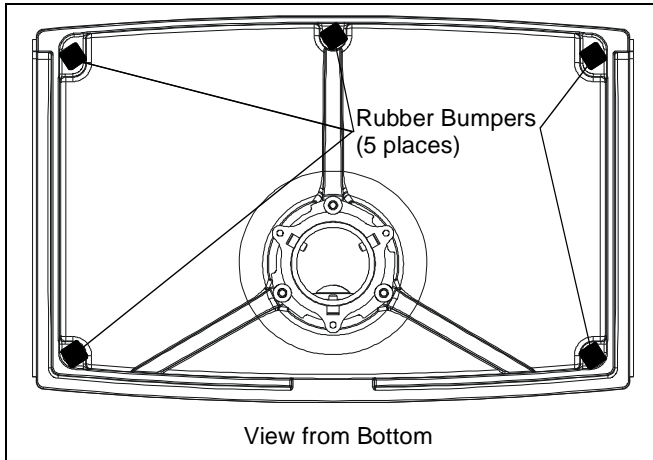

Figure 1
1. Install five rubber bumpers (B) on bottom of stand. (See Figure 1)